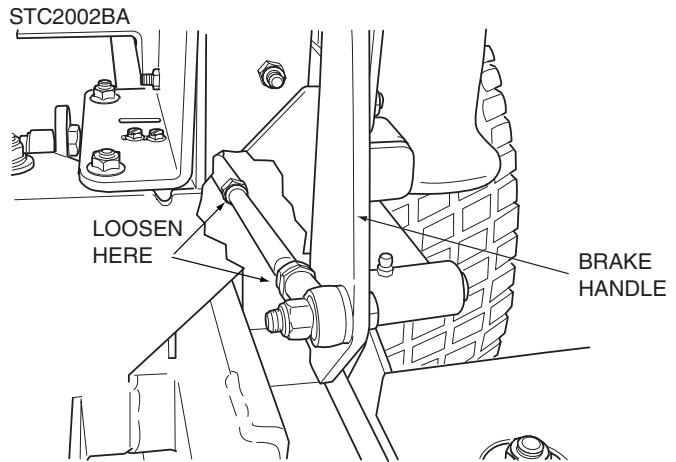
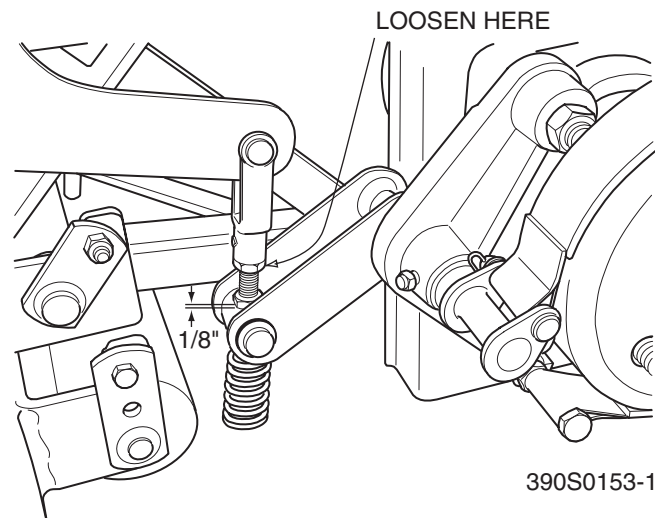

Figure 6-1. Brake Adjustment
Figure 6-2. Brake Rod Adjustment
2. With the brake in the engaged position, check the distance between the lower nut on the brake actuator rod and the brake actuator lever on the LH side of the machine. The distance should be 1/8". See Figure 6-2.
3. If the distance is not at the specified measurement, loosen the jam nut at the clevis on the top of the brake actuator rod. See Figure 6-2.
4. Turn the bolt at the bottom of the brake actuator lever until the 1/8" measurement is achieved and tighten the jam nut at the clevis on the brake actuator rod. See Figure 6-2. If the 1/8" measurement can not be achieved by adjusting the brake actuator rod, adjust the brake control rod. Adjust by loosening the jam nuts at both ends of the brake control rod and turning the rod until the proper distance is achieved. See Figure 6-1.